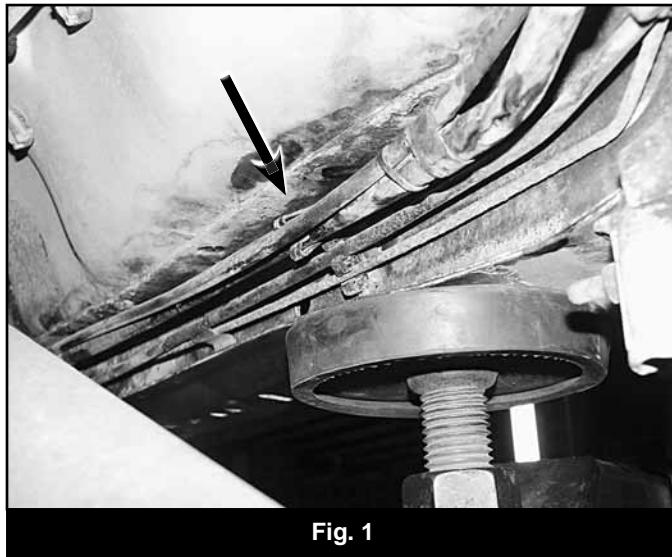

Fig. 1
5. Locate the plastic retaining clip on the inside of the driver's side uni-body frame rail (Fig 1). This clip will be holding 4 lines/hoses. Remove the lines/hoses from the clip and remove the clip from the body.